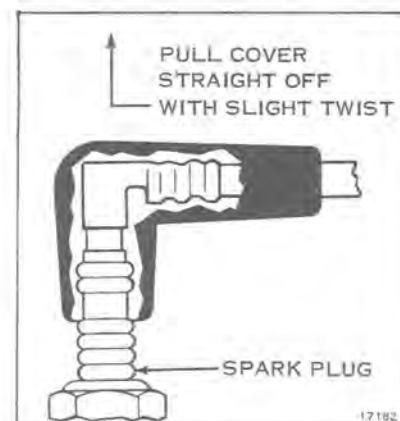

Figure 9-5
4. Remove spark plug leads from spark plugs and rear plug clamp. See Figure 9-5.